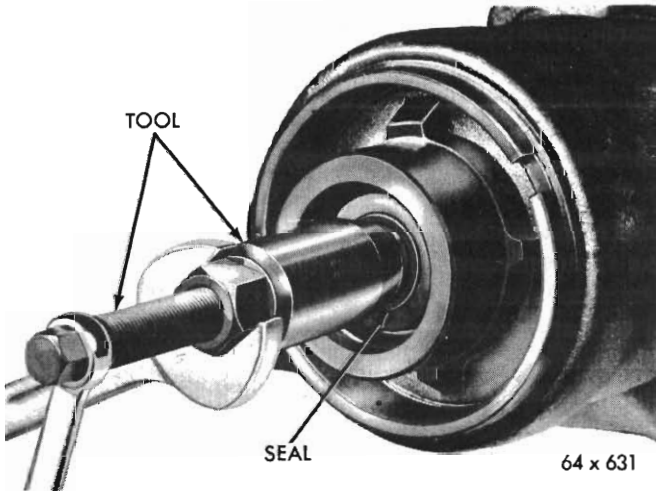

Fig. 8 – Removing the wormshaft oil seal
- (1) Remove steering gear as described in *para 2*.
- (2) Remove the oil seal using Tool E19C25H – refer Fig. 8.